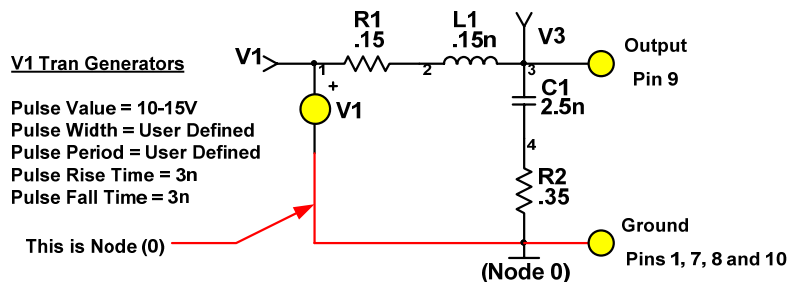

Figure 4 DRF100.
The Model illustrated in Figure 4 will operate correctly for any signal type or value at node (0).